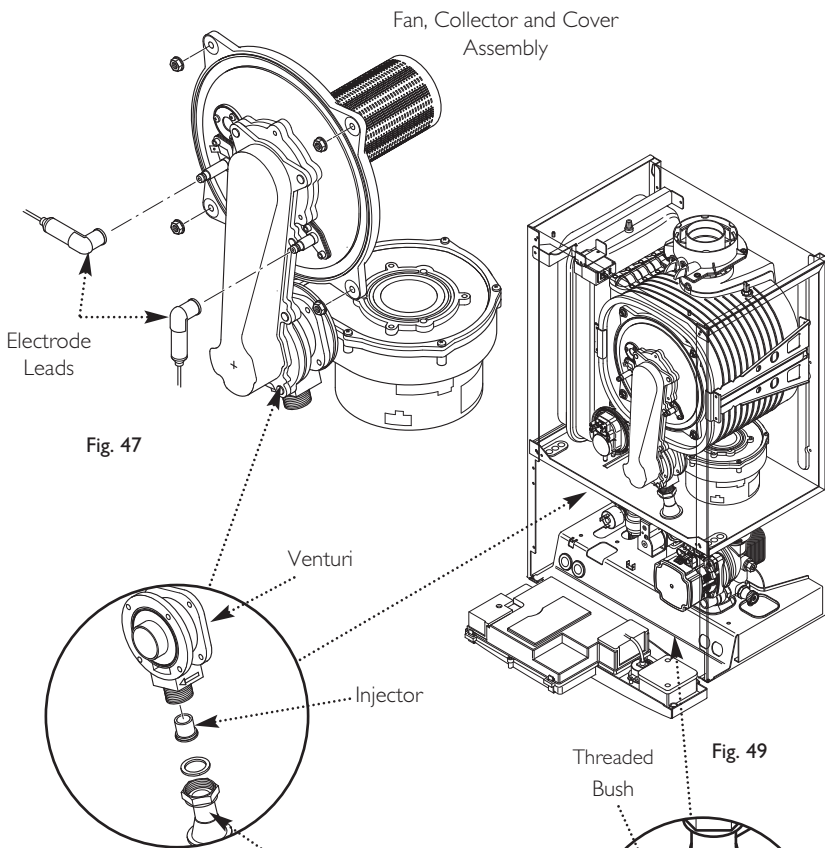

Fig. 47
9. Carefully draw the fan, collector, air pressure switch and cover assembly forward, being careful to retain the injector in the venturi (Figs. 47 & 48).